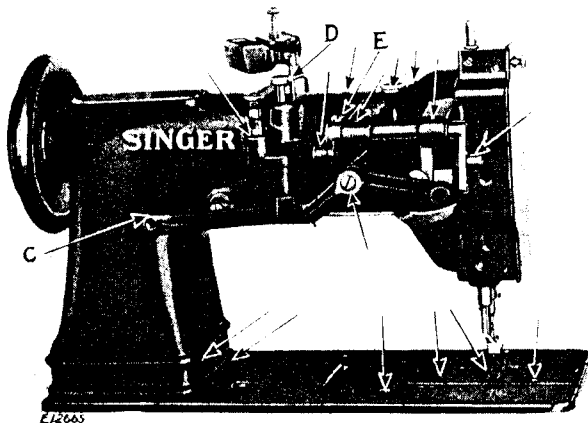
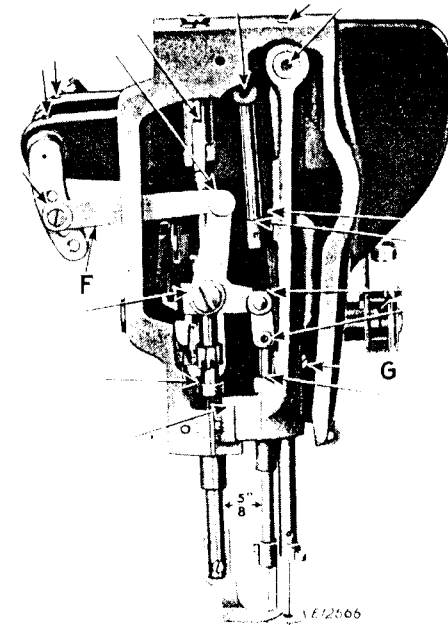

Fig. 3. Rear View of Machine
Fig. 4. End View of Machine Showing Oiling Points
To increase the pressure, turn the thumb screw (D, Fig. 3) at the back of the machine, downwardly. To decrease the pressure, turn this thumb screw upwardly.
In case the needle bar is not correctly set, loosen the needle bar connecting stud pinch screw (G, Fig. 4) and place the needle bar in correct position as directed above, then retighten the screw (G).
The distance between the vibrating presser bar and lifting presser bar, after turning the feed regulating spindle head so that there is no feed movement of the needle bar, should be $5/8$ inch as shown in Fig. 4.
If the distance between the vibrating presser bar and the lifting presser bar is more or less, insert a screwdriver in the hole at (C, Fig. 3) at the rear of the machine and loosen the clamp screw which holds the needle bar rock frame rock shaft. While this screw is loose, the needle bar frame can be moved forward or backward to the required distance. A piece of metal of the correct width may be used to determine the correct distance. When making this adjustment be sure to see that the feed regulating spindle head is set so that there is no feeding movement of the needle bar. When the adjustment has been made, securely tighten the clamp screw at C.
The height of lift of the pressers is adjustable by moving the link (F, Fig. 4) to any of the four holes in the rock shaft crank. The maximum lift is secured with the link in the bottom hole. The amount of lift of the vibrating and lifting presser feet should be regulated according to the thickness of material being sewn. The feet should lift just high enough to clear the material. As a rule, the vibrating and lifting pressers should lift an equal height, but some grades of work may require that they lift an unequal height. To change the relative lift of the presser feet, loosen the screw (E, Fig. 3) at the back of the machine and move the presser bar upwardly or downwardly as required, then securely tighten the screw (E).